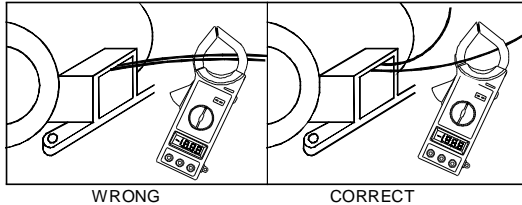

Fig1
1. Set the rotary switch at desired A~ range position. Press the trigger to open the transformer jaws and clamp onto one conductor only(Fig1), The transformer jaws pick up the AC current flowing through the conductor.